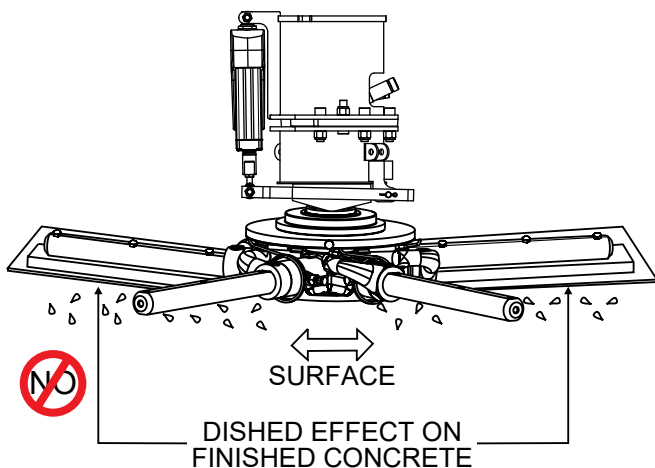

Figure 71. Incorrect Spider Plate Alignment
3. If any adjustment bolts are not making contact with the lower wear plate, adjustment will be necessary. Figure 71 illustrates incorrect alignment, worn spider bushings, or bent trowel arms.